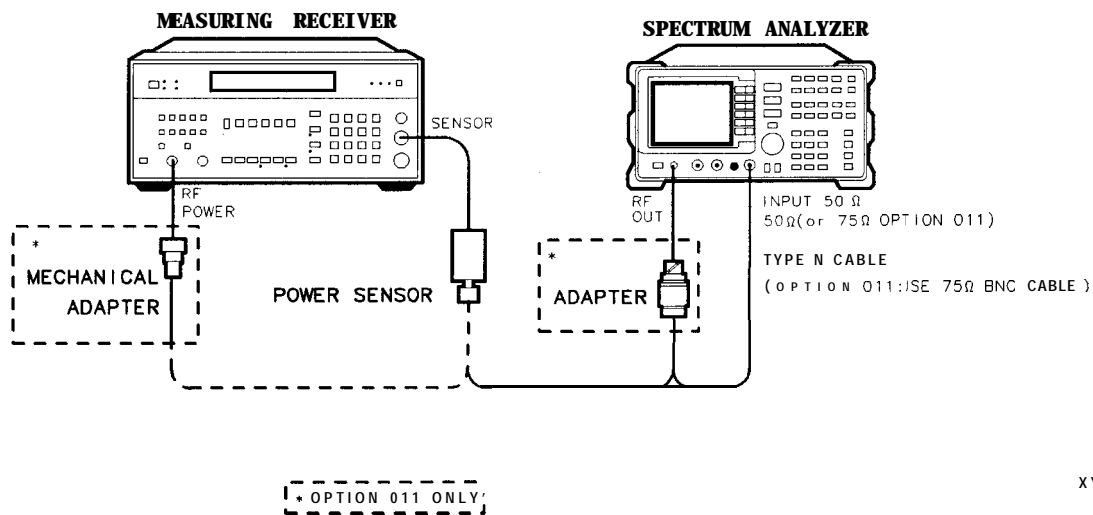

Figure 1-23. Absolute Amplitude, Vernier, and Power Sweep Accuracy Test Setup
1. Connect the Type N cable between the RF OUT 50 Ω and INPUT 50 Ω connectors on the spectrum analyzer. See Figure 1-23.
6. Disconnect the Type N cable from the RF OUT 50 Ω and connect the power sensor to the RF OUT 50 Ω as shown in Figure 1-23.